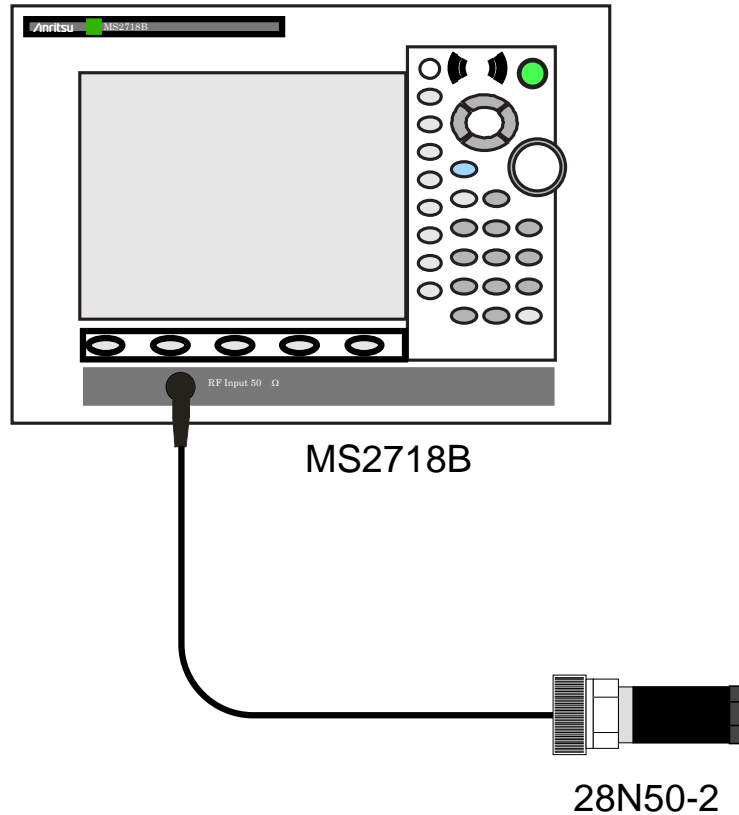

Figure 2-3. Displayed Average Noise Level Test Setup
1. Connect the 28N50-2 50 Ohm termination to the MS2718B, MS2719B Spectrum Analyzer RF In as shown in Figure 2-3.
2. Set the MS2718B, MS2719B to Spectrum Analyzer mode, and then press **Shift** and press **Preset** (1) and then press the **Preset** softkey to preset the MS2718B, MS2719B.
6. Press the **Shift** key and then press the **Sweep** (3) key. Press **Detection**, then press **RMS** (red dot appears on the **RMS** label).